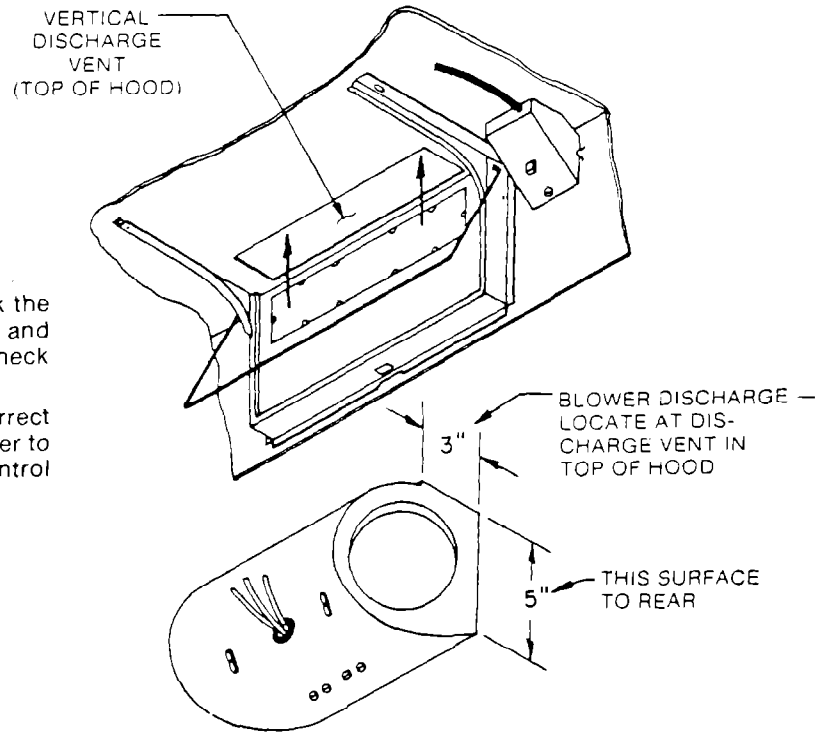
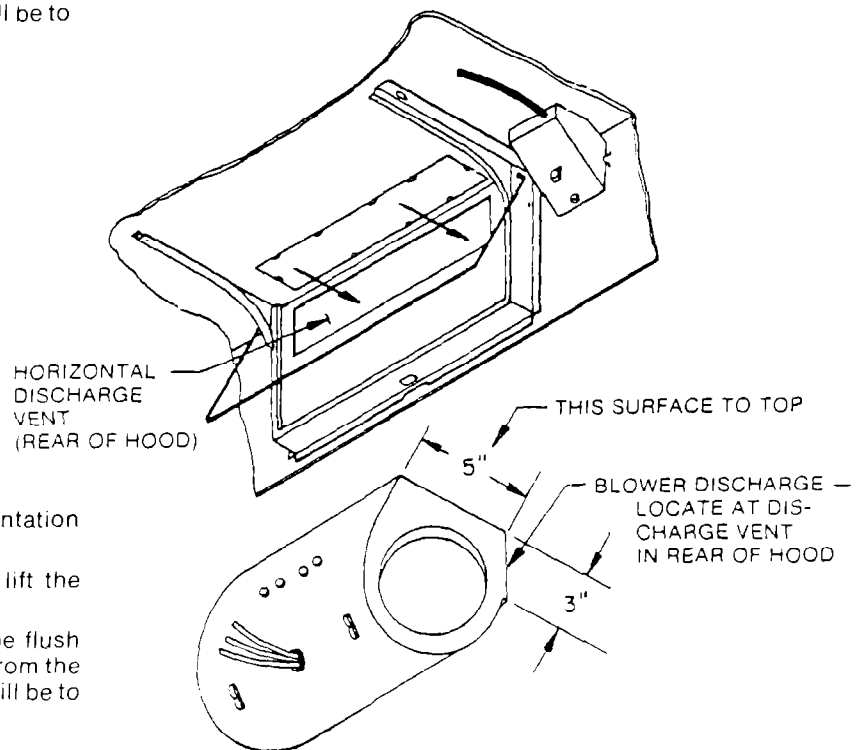

Figure 7
Figure 8
17. Replace blower. Note different blower positions in Figure 7 for vertical venting and Figure 8 for horizontal venting.
1. Figure 7 shows the proper Blower Assembly orientation for vertical discharge.
2. From the blower position shown in Figure 7, lift the Blower Assembly vertically into mounting position.
1. Figure 8 shows the proper Blower Assembly orientation for horizontal discharge.
2. From the Blower position shown in Figure 8, lift the blower Assembly vertically into position.